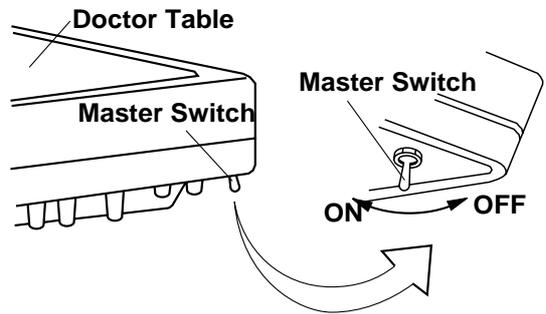

Fig.3-2 Master Switch
(2) Master Switch (**Fig.3-2** and **Fig.3-3**)